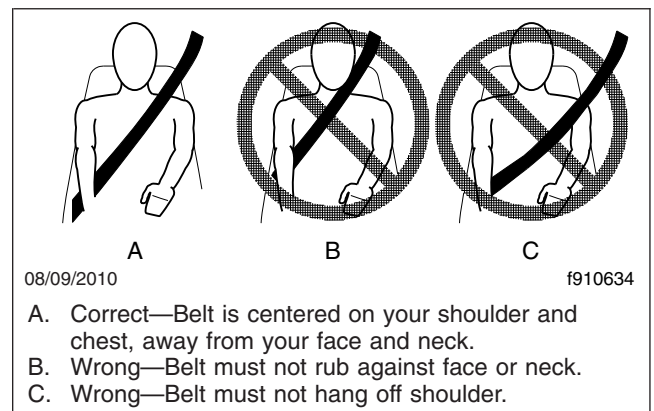

Fig. 6.10, Proper Shoulder Strap Fit
and neck. See Fig. 6.10. If desired, engage the Komfort Latch or Sliding Komfort Latch as follows.
5. Position the shoulder strap diagonally across your chest with the adjustable D-loop bracket (if equipped). The shoulder strap must be centered on your shoulder and chest, away from your face and neck. See Fig. 6.10.